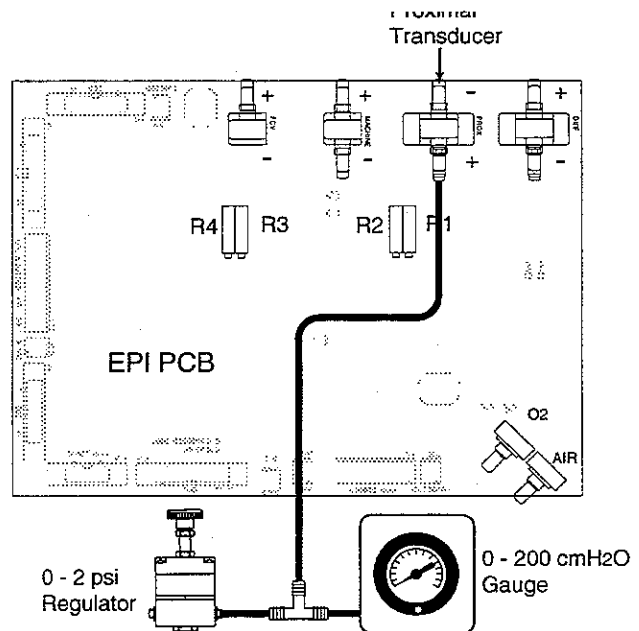

Figure 5-2
7. Connect the Proximal Transducer as shown in Figure 5-2 and apply 95 ±.5 cmH₂O pressure.
11. Connect the Proximal Transducer as shown in Figure 5-2 except to the opposite port (negative) and apply 40 ±.5 cmH₂O pressure.